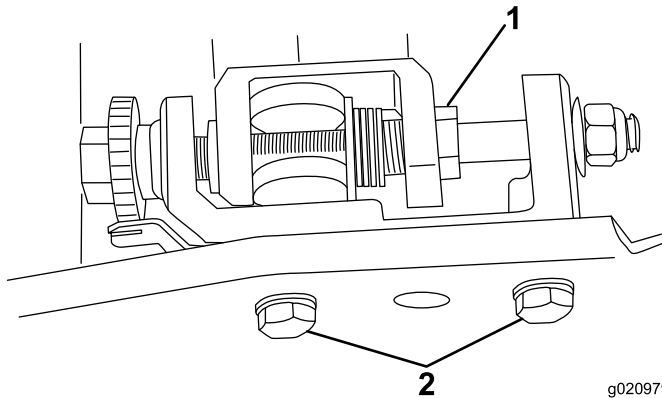

Figure 4
- A. Using a 7/8 inch standard wrench, loosen the spring tension screws on the right and left bedbar adjusters (**Figure 4**).
- C. Remove the 2 bolts and washers securing left, bedbar-adjuster frame to the side plate (**Figure 4**).
16. If you are installing this kit on a **Greensmaster 800 mower** with a serial number prior to 230999999, a **Greensmaster 1000 mower** with a serial number prior to 229999999, or a **Greensmaster 1600 mower** with a serial number prior to 260001401, install the left, bedbar-adjuster frame to the side plate with the bolts and washers you removed previously (Figure 4).